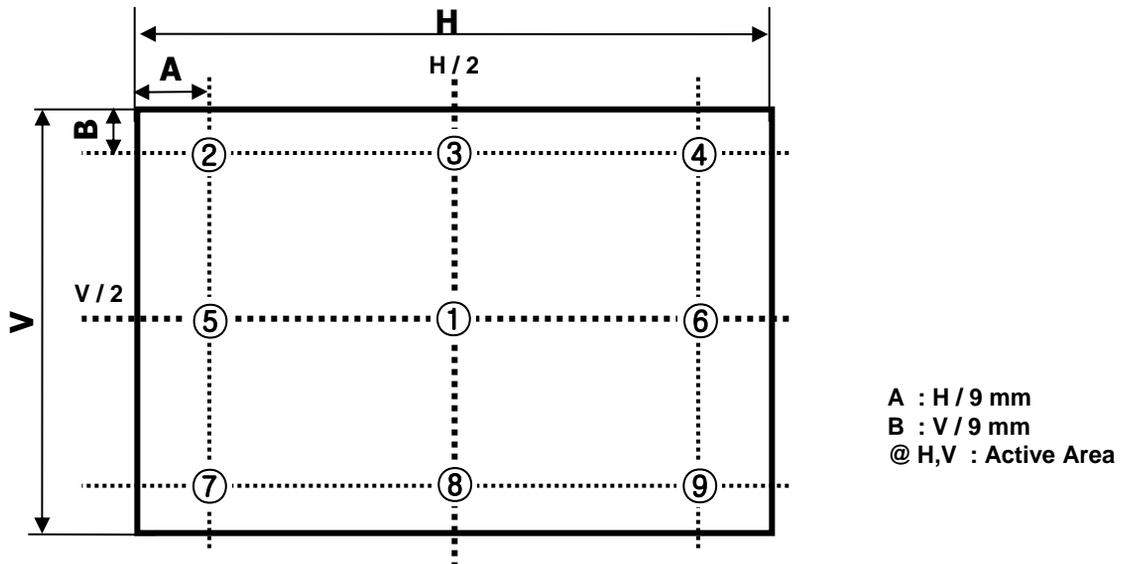

FIG. 2 9 Points for Luminance Measure
2. Surface luminance are determined after the unit has been 'ON' and 1 Hour after lighting the backlight in a dark environment at $25 \pm 2^{\circ}\text{C}$. Surface luminance is the luminance value at center 1-point across the LCD surface 50cm from the surface with all pixels displaying white. For more information see the FIG. 2.
For more information, see the FIG. 2.